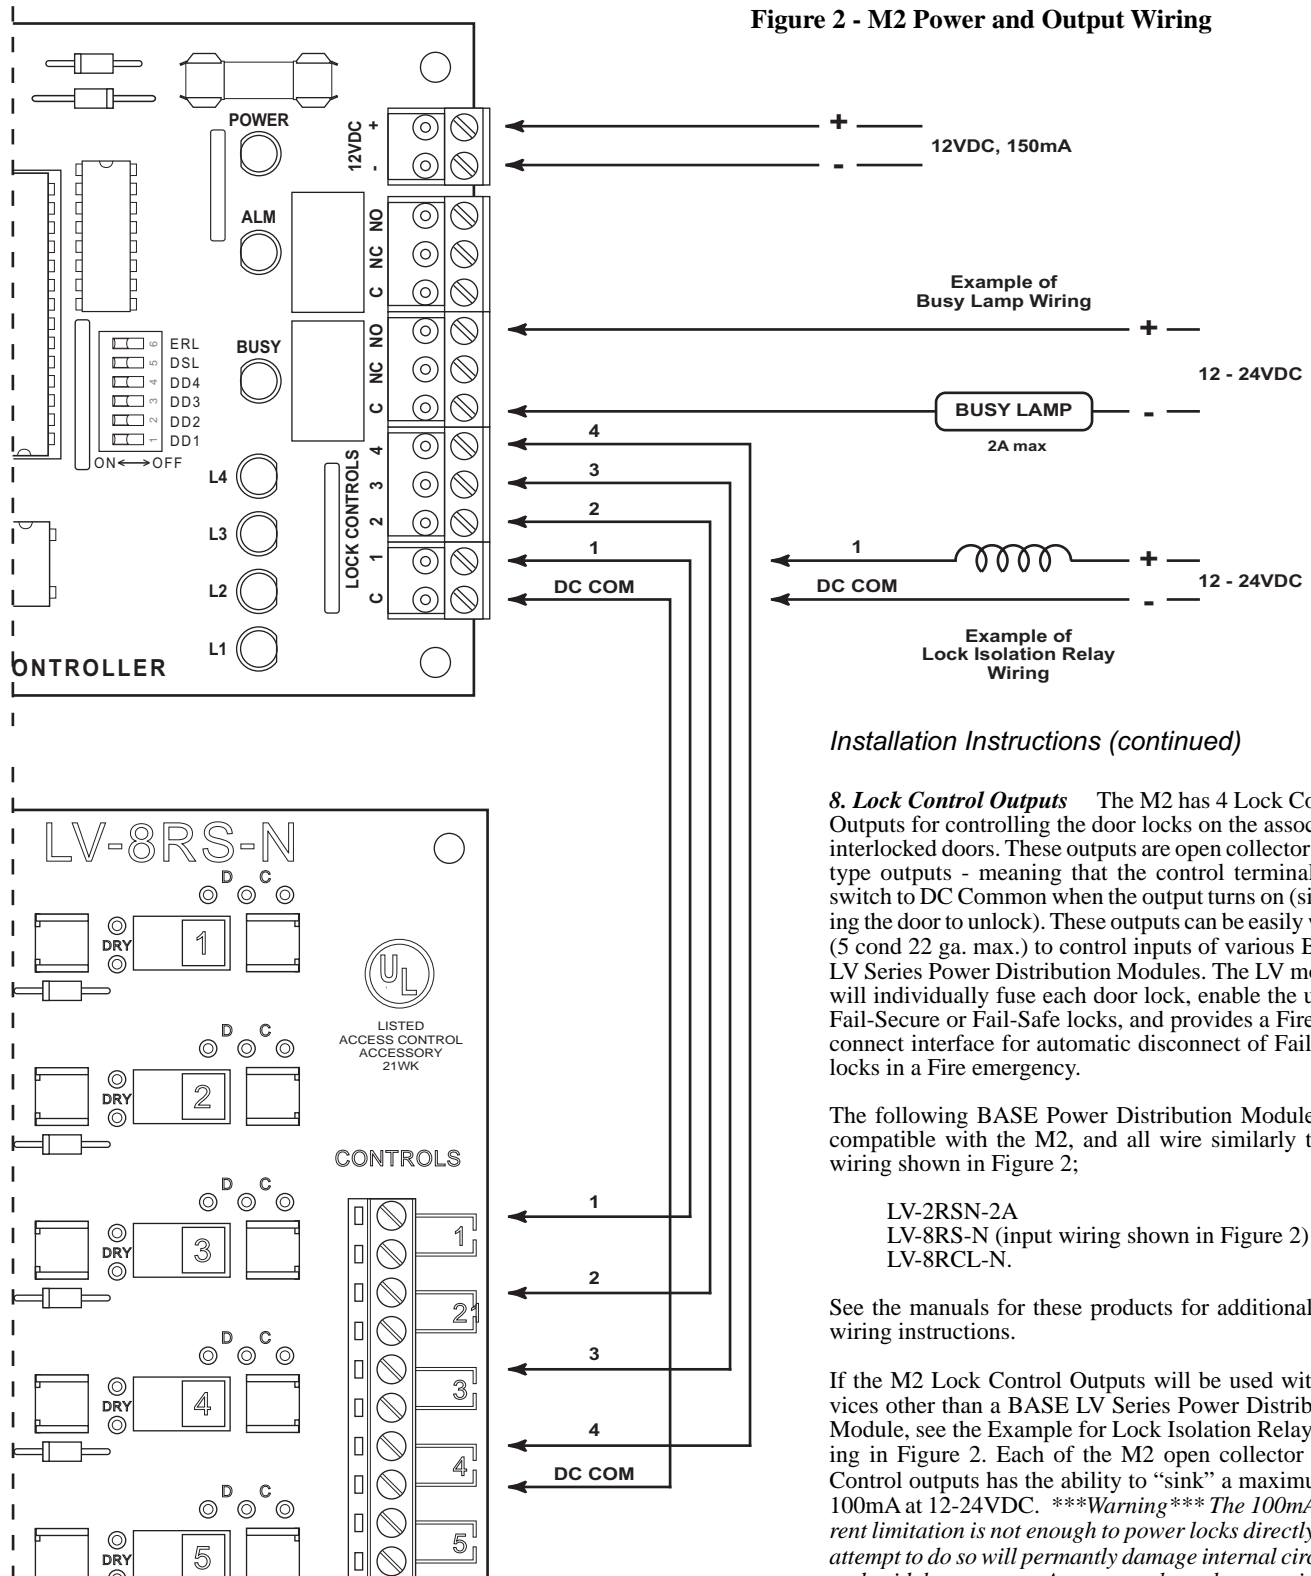

Figure 2 - M2 Power and Output Wiring
5. M2 Power Connect 12VDC power to the upper right terminals marked **12VDC** as shown in Figure 2.
7. Busy Output The M2 Busy Relay form-C Output Contact is rated for 2A max. This relay is normally de-energized and energizes whenever a door is open or an Entry Request is active. This is useful for operating lamp(s) at the mantrap area to signify to the next user that the mantrap is in use. See wiring example shown in Figure 2.
The following BASE Power Distribution Modules are compatible with the M2, and all wire similarly to the wiring shown in Figure 2;
- LV-8RS-N (input wiring shown in Figure 2)
If the M2 Lock Control Outputs will be used with devices other than a BASE LV Series Power Distribution Module, see the Example for Lock Isolation Relay Wiring in Figure 2. Each of the M2 open collector Lock Control outputs has the ability to “sink” a maximum of 100mA at 12-24VDC. *****Warning*** The 100mA current limitation is not enough to power locks directly. Any attempt to do so will permanently damage internal circuitry and void the warranty. Any external + voltage accidently applied to the M2 Lock Control terminals may permanently damage internal circuitry and void the warranty.**